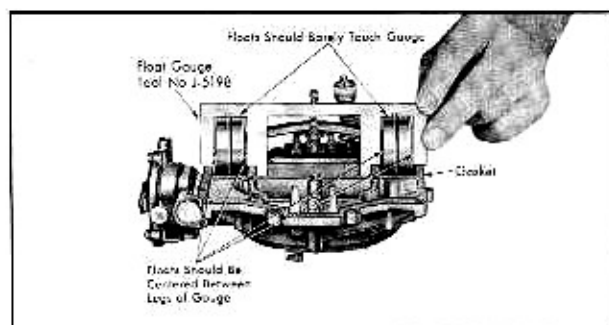

Fig. 12-16 Float Level Adjustment
NOTE: Rochester floats are adjusted with the bowl cover gasket on the cover, as shown in Fig. 12-16.
3. Place Float Gauge, Tool No. J-5198, in position as shown in Fig. 12-16, so that gauge is located against the curvature in the bore of the carburetor air horn.